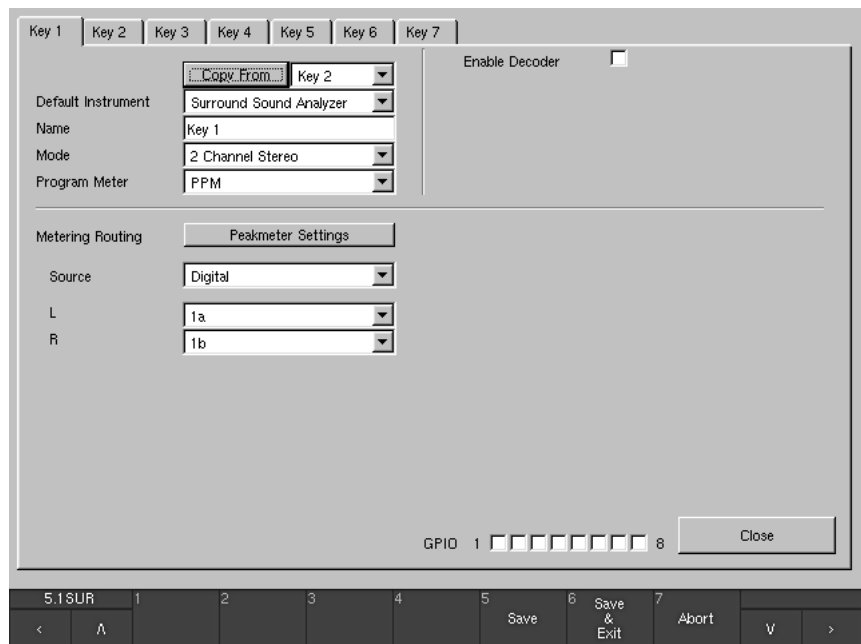

Fig. 6-17: Global Input Routing menu page with „2 Channel Stereo“ mode selected
• **Copy From** (see Figs. 6-17 to 6-23)
• **Default Instrument** (see Figs. 6-17 to 6-23)
- **Name** (see Figs. 6-17 to 6-23)
- **Mode** (see Figs. 6-17 to 6-23)
Depending on this mode setting the menu page will change its options. Please refer to the screen shots earlier in this chapter to see how the page looks like in each mode (see Figs. 6-17 to 6-23).
See Figs. 6-17 to 6-23
- **Program Meter** (see Figs. 6-17 to 6-23)